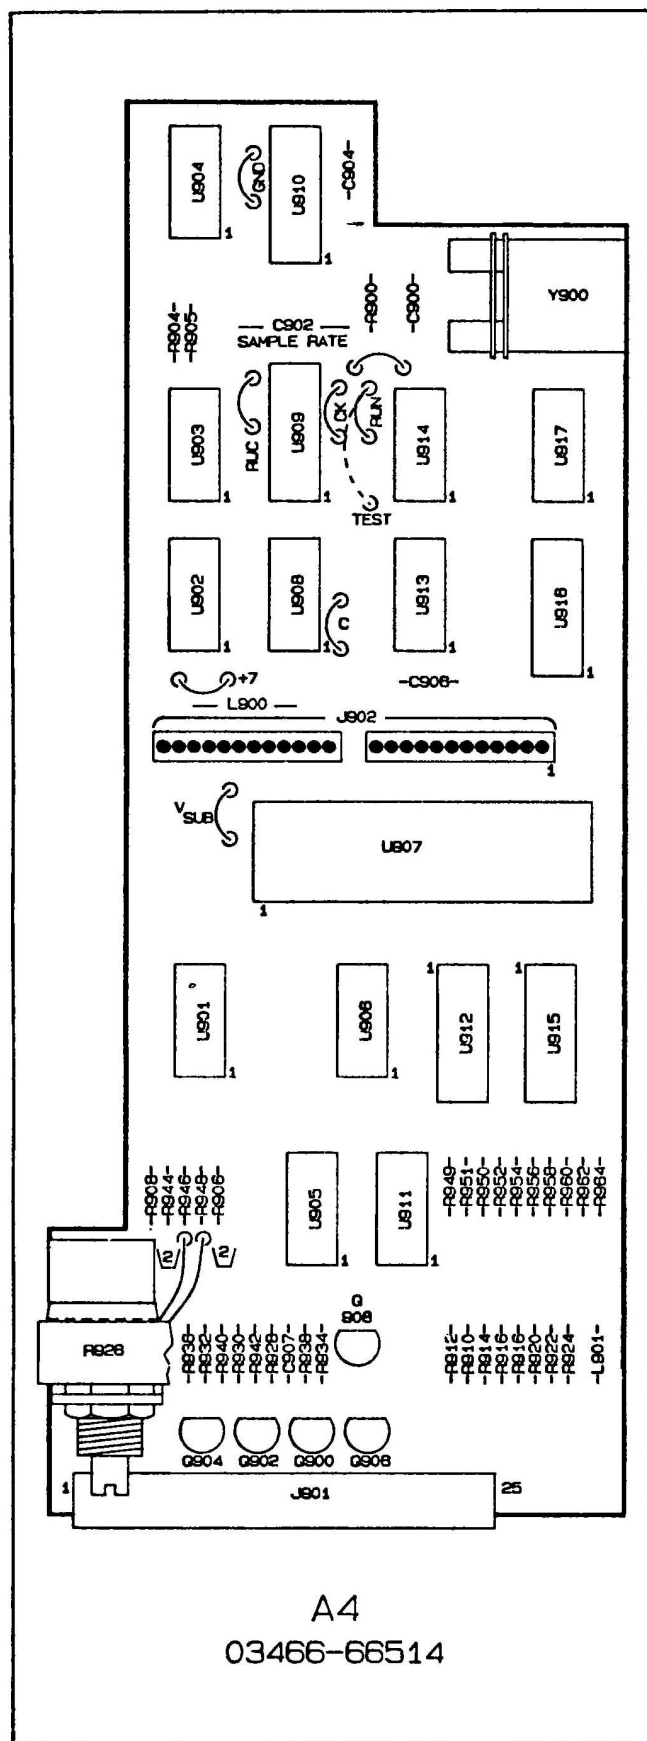

Figure 7-5. Component Locator for Change #14
**7-43. Table 6-3 (Replaceable Parts) and Schematic 4 Changes.** Delete connector P904 from the table and Schematic 4. Use component locator in Figure 7-5.